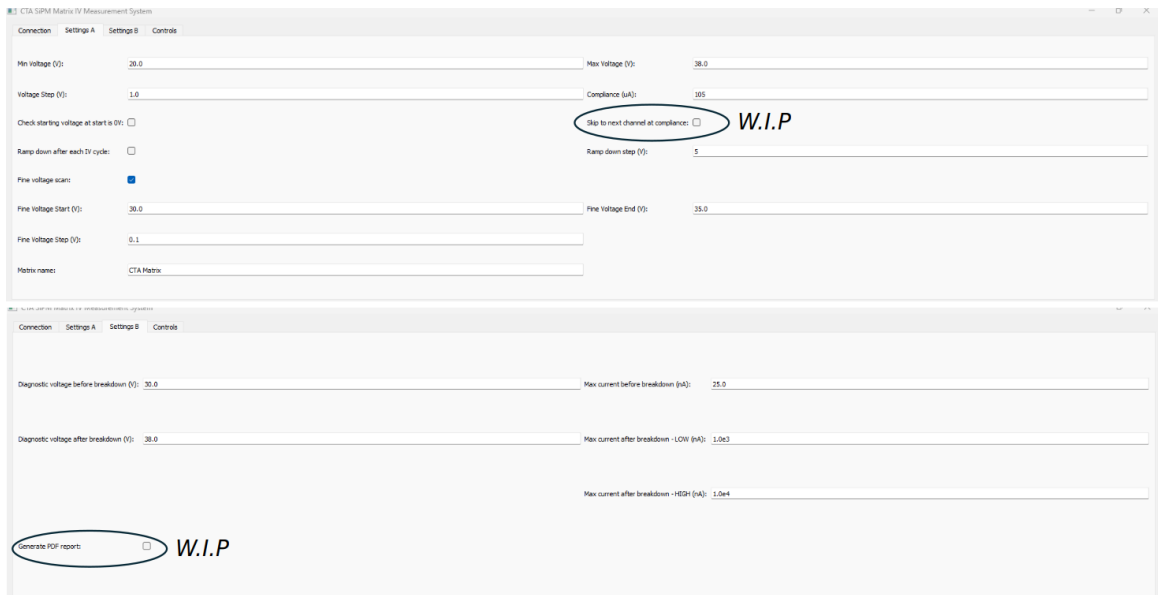

Figure 3: Debug tabs
- **Debug Mode:** intended for troubleshooting and advanced handling of the parameters (fig. 3). This tabs only show up when launching *cta_matrix_iv.exe* from command line with the additional *--debug* parameter.